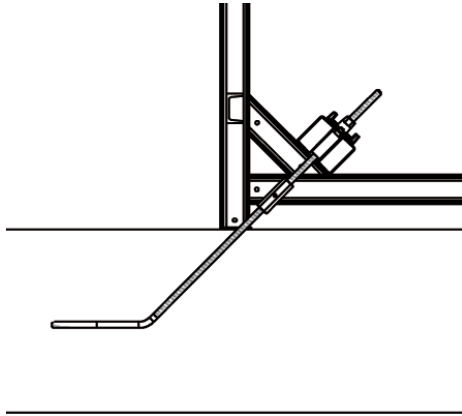

Fig. 9.1
- Anchor loop in combination with the cross stiffener 44 (Fig. 9.1 and Detail).